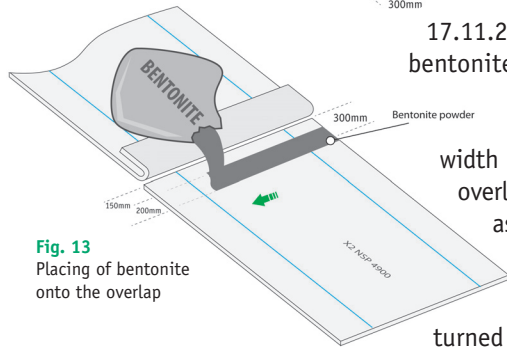

Fig. 13
17.11.2 The necessary amount of bentonite (approx. 0,6kg/m) shall then be placed onto the overlap area in a width of 200mm (150mm in the overlap area and 50mm in front, as shown in fig. 13).